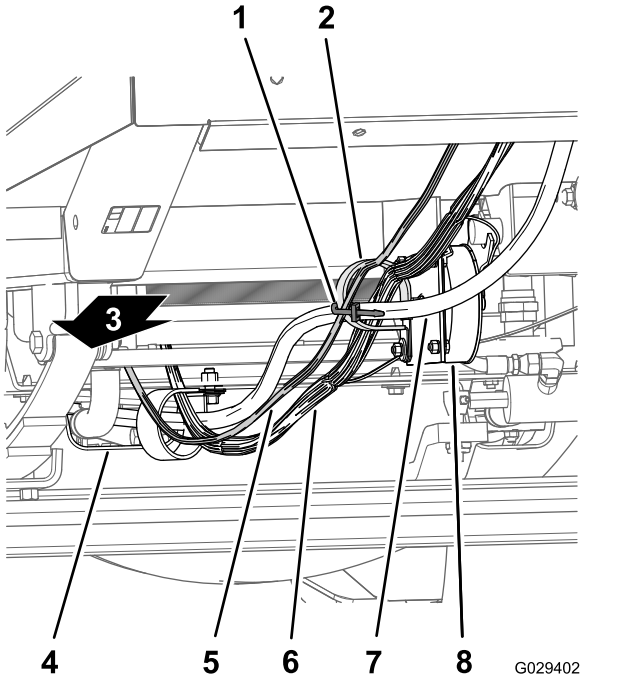

Figure 195
1. Route the 240 cm (94-1/2 inches) dash panel branch of the wire harness along the wire harness and steering hoses of the machine (below the radiator), through the R-clamp at the bottom of the radiator support, through the R-clamp at the ground-speed-control coil (Figure 195 and Figure 196).
2. Route the 240 cm (94-1/2 inches) dash panel branch of the wire harness to the R-clamp at the ground-speed-control coil (Figure 195 and Figure 196).